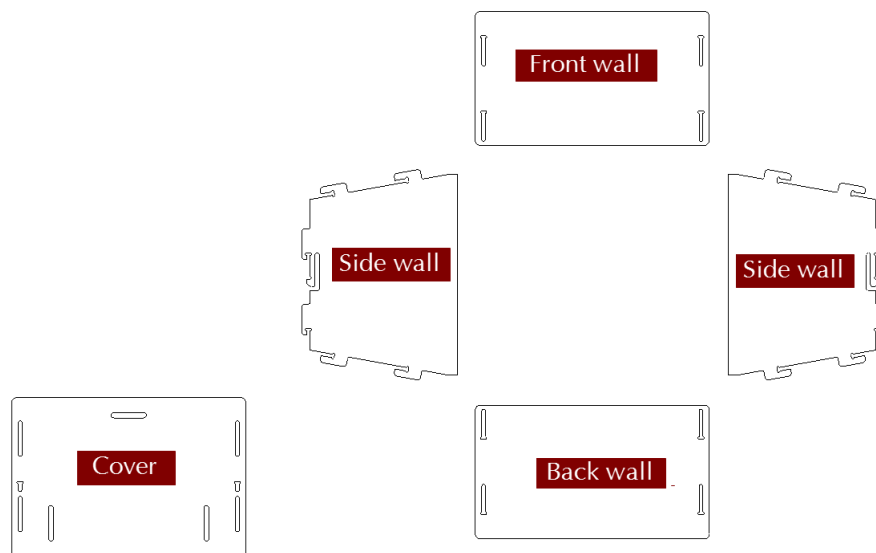
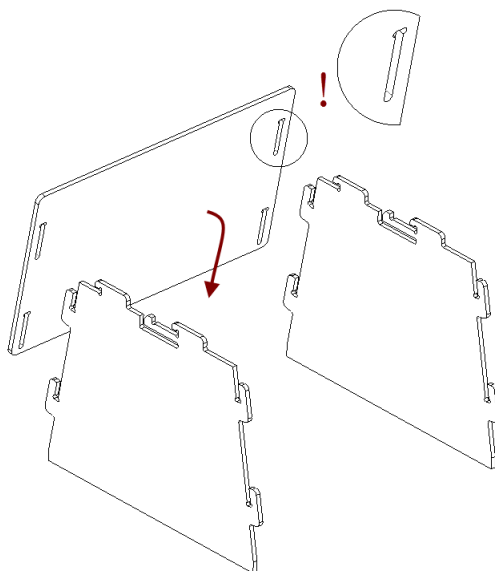
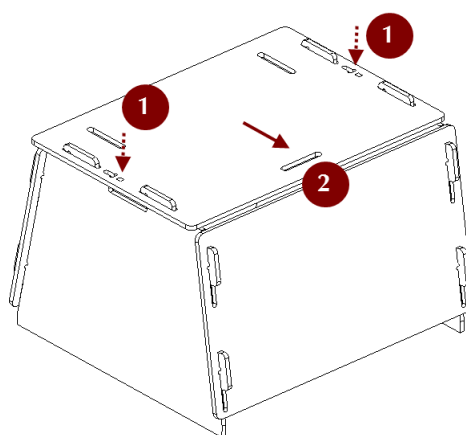

Figure 162: Parts of the scanner stand.
Figure 163: Assembling the front wall.
Figure 166: Latching the cover.
The scanner stand comes unassembled with Artec Spider and consists of five parts (see Figure 162): two side walls, one front and one back wall (these parts are identical, however), and a cover. Before beginning assembly, lay them all out as Figure 162 shows. Then follow these steps:
1. Raise the two side walls to the upright position, as Figure 163 shows. Noting carefully the orientation of the T-shaped slot, install the front wall to the side walls using the two pairs of hooks. Press the front wall and slide it down against the stop. Make sure the three walls are properly aligned with each other.
4. Press your thumbs against the T-shaped holes on the cover and shift it toward the back wall until you hear a click (see Figure 166).
Note: To disassemble the stand, release the detents in the cover's T-shaped slots (see Figure 162) using a thin object like a ballpoint pen. Repeat the assembly steps in reverse order (from Figure 166 to Figure 163), moving the parts in the opposite directions.